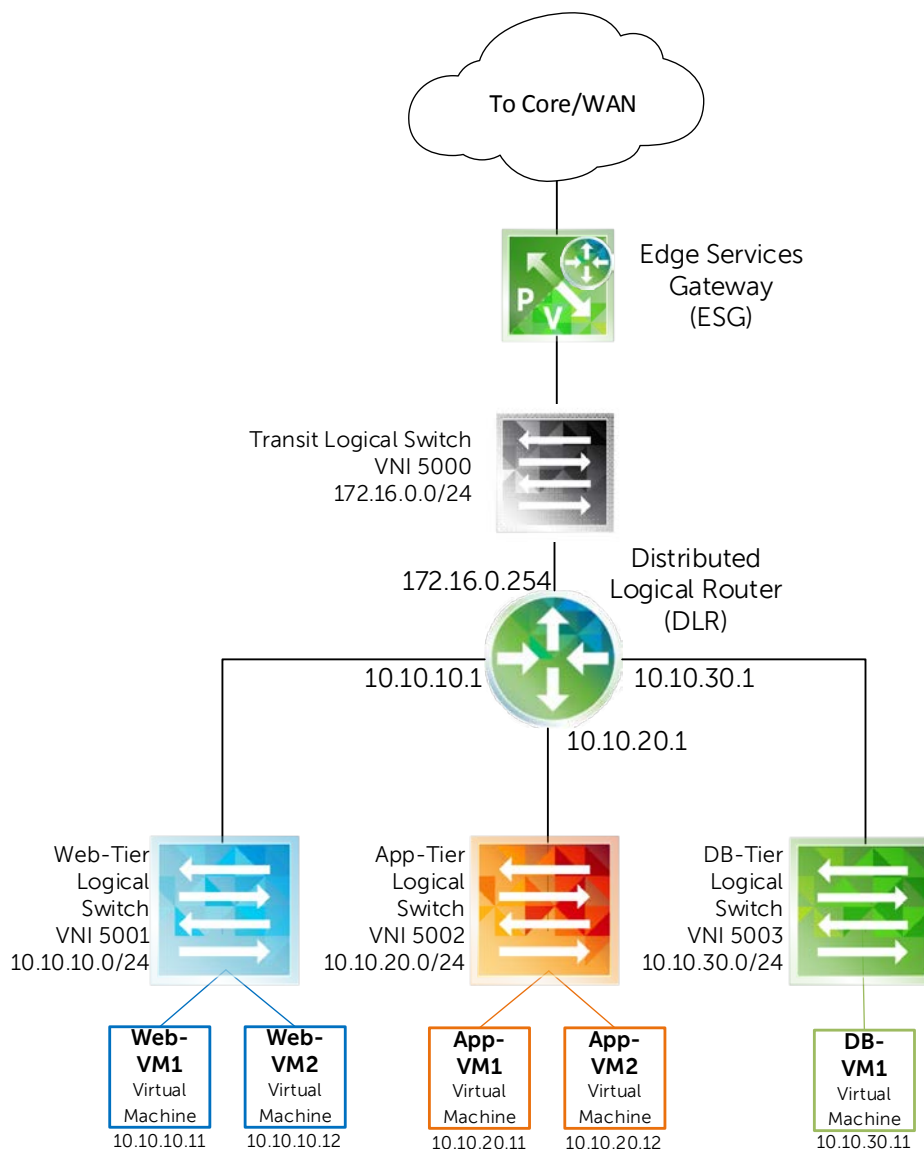

Figure 15 NSX virtual network
- The NSX virtual, or overlay, network as shown in Figure 15.
Figure 15 shows the NSX virtual network built for this guide.